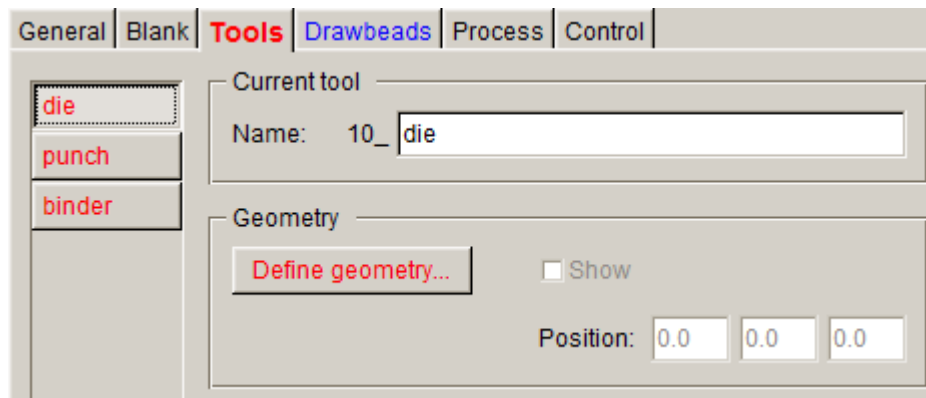

Figure 1.13 Die definition
4. Enter the **die** interface, and select **die** located at the left of tools list, then select **Define geometry...** button to define die, as illustrated in Figure 1.13.